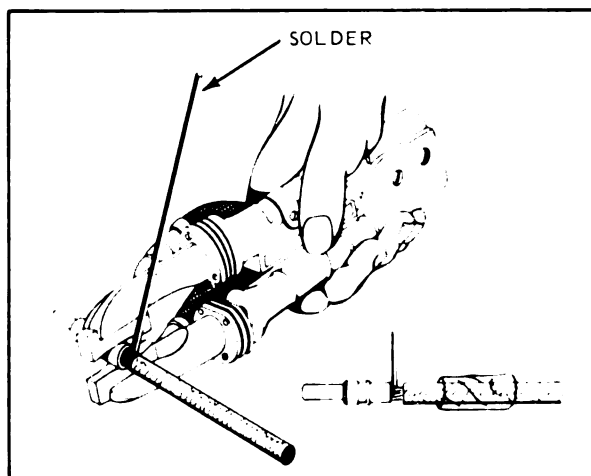

Figure 3-30. Resistance Soldering Pliers for Large Contacts
a. Large contacts are soldered to wires by the use of resistance soldering pliers. See figure 3-30. The contact, removed from insert, is held in the jaws of the pliers and current is applied until the solder in the solder well has melted. Then the pre-tinned wire is inserted slowly into the solder cup while current is still being applied. After the wire is fully inserted, continue heating until the solder flows to form smooth fillet. Allow joint to cool and harden without movement.